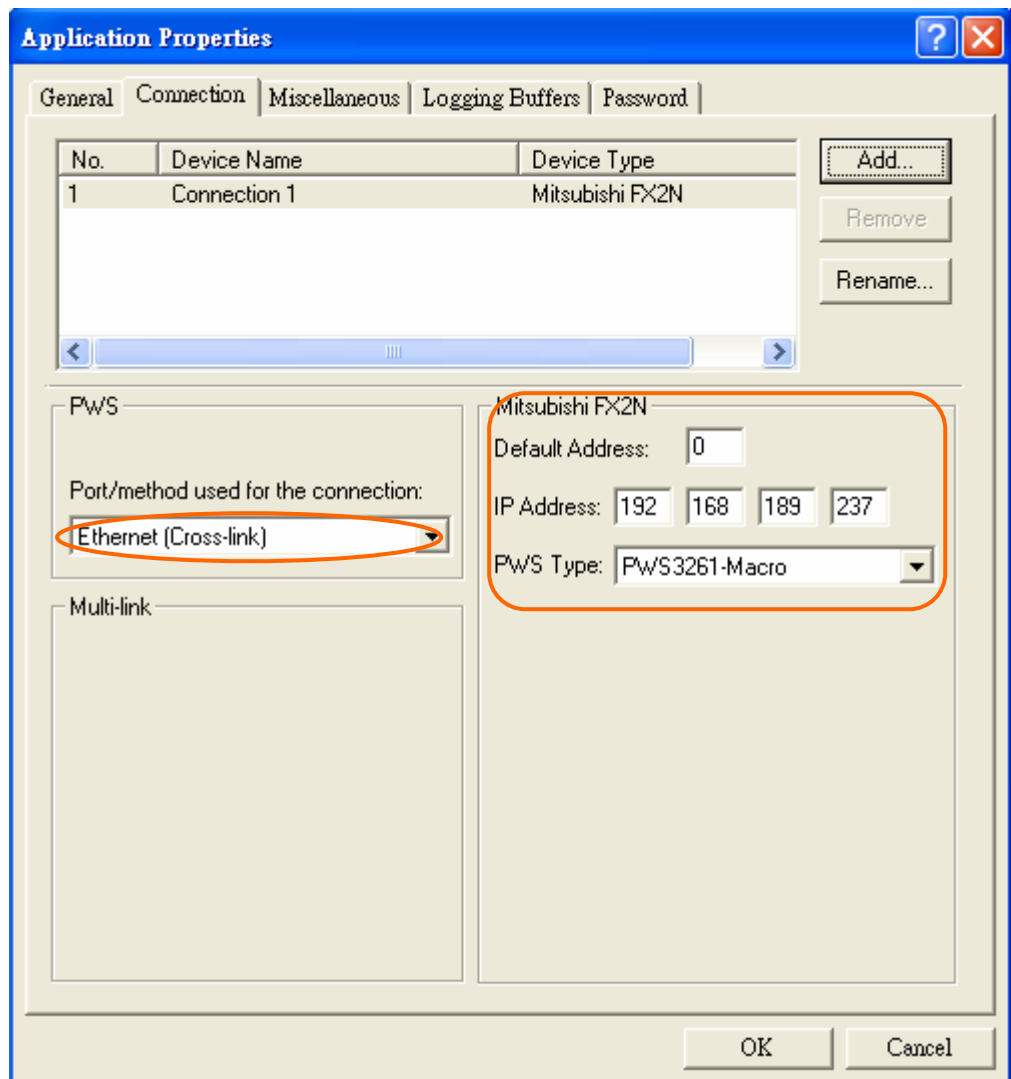

Figure 219. Key in the Address and Select PWS Type
3. Select the [Connection] tab. On the [Connection] tab, select “Ethernet (Cross-link)” from the [Port/method used for the connection] list. Then key in the default and IP address in the [Default Address] and [IP Address] box and select the [PWS Type]. See Figure 219.
4. Select type of HMI from the [PWS Type] list. See Figure 219.